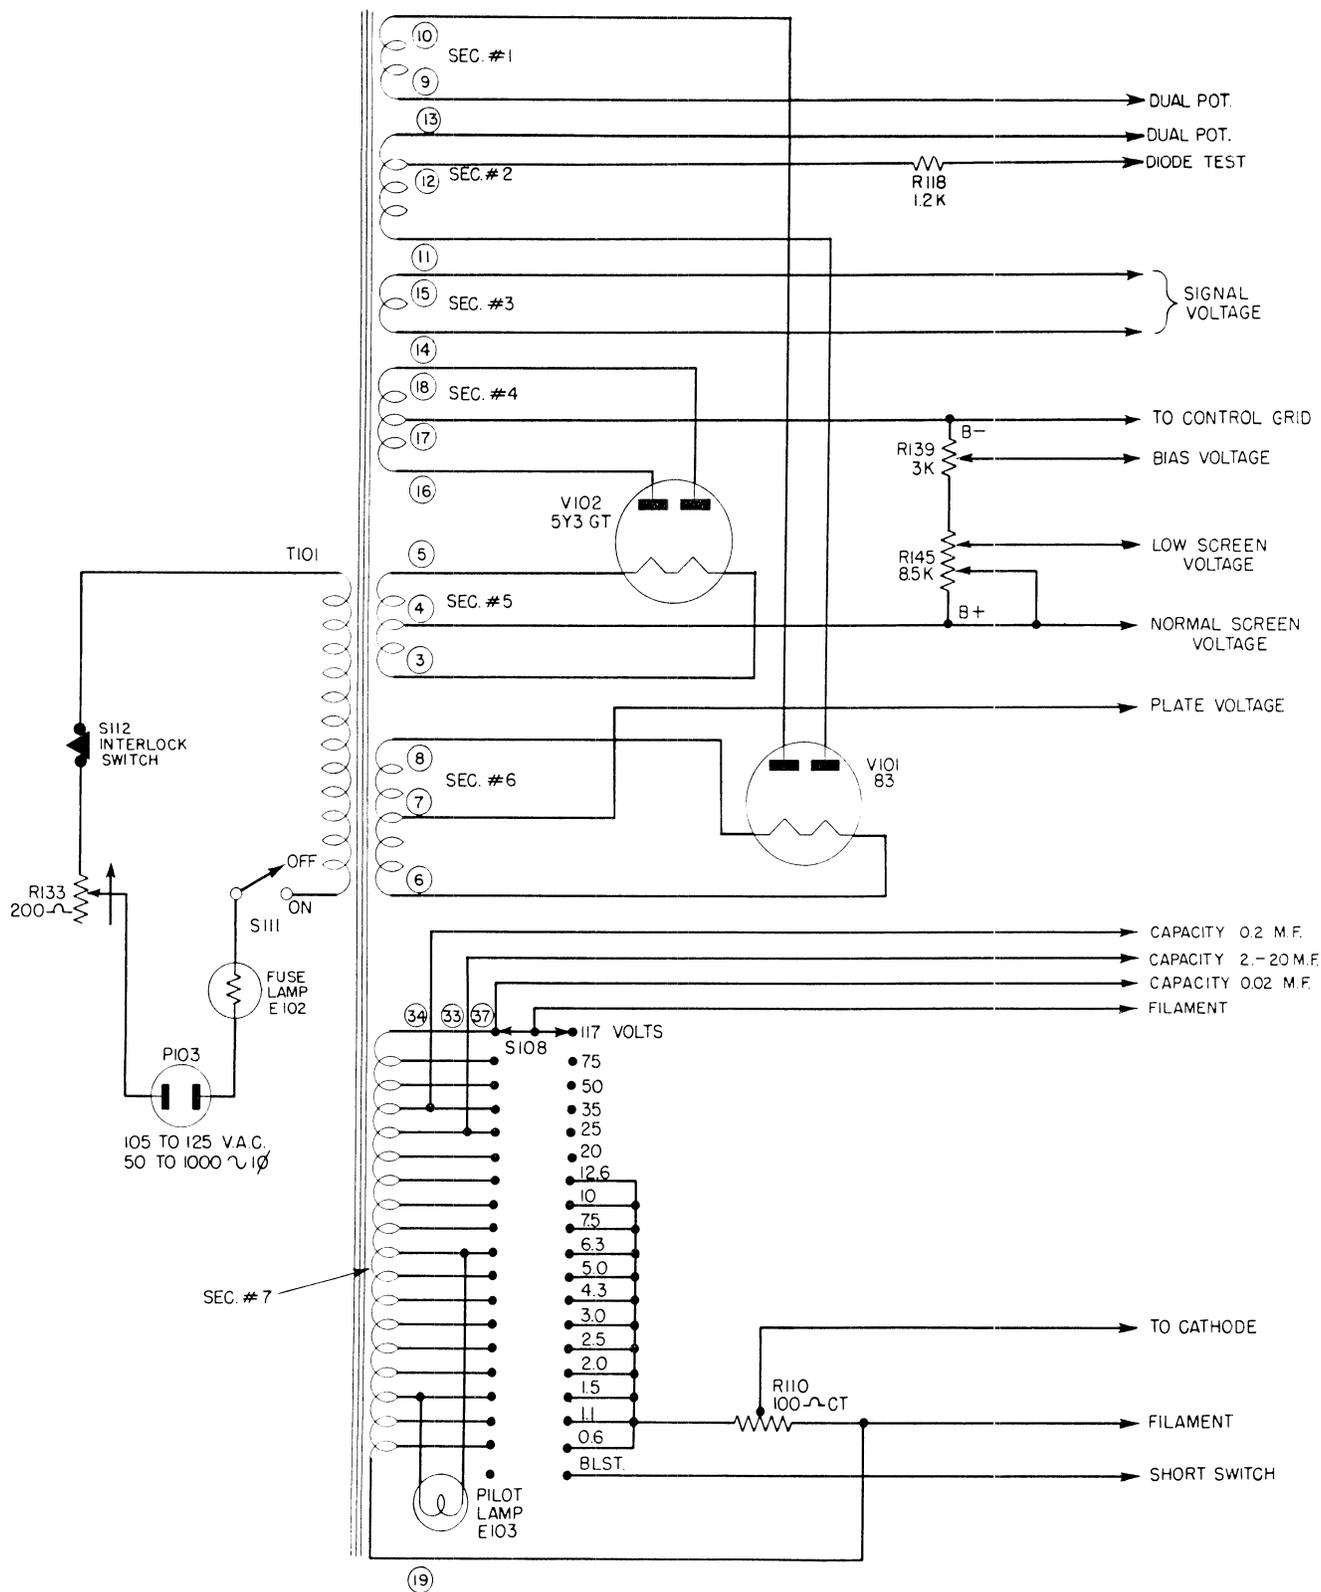

Figure 2-3. Simplified Power Supply Circuit
(See Figure 2-3)
b. Secondary #7 of power transformer T-101 consists of a multi-tapped winding designed to supply the various filament or heater voltages for the tubes under test. Voltages shown on figure 2-3 are measured under load. No load voltages will be somewhat higher. For example: no load voltage measured from point 19 to point 37 will be approximately 121 volts with 93 volts on the primary. Secondary #7 also supplies voltage for rectifier emission tests.